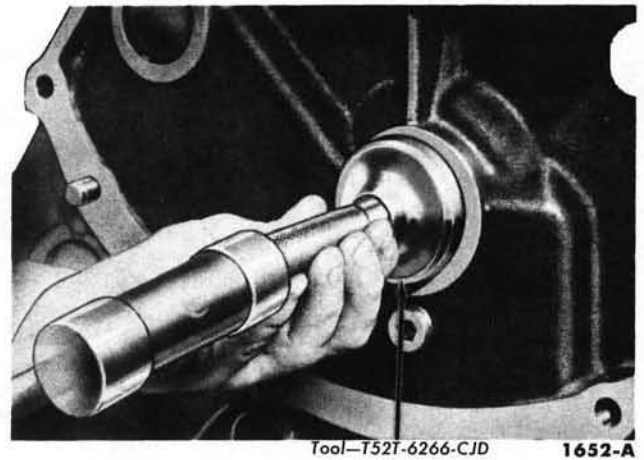

FIG. 39—Camshaft Rear Bearing Bore Plug Installation
4. Clean out the camshaft rear bearing bore plug recess thoroughly. Coat the flange of a new plug with water resistant sealer and install it with the flange facing in (Fig. 39).